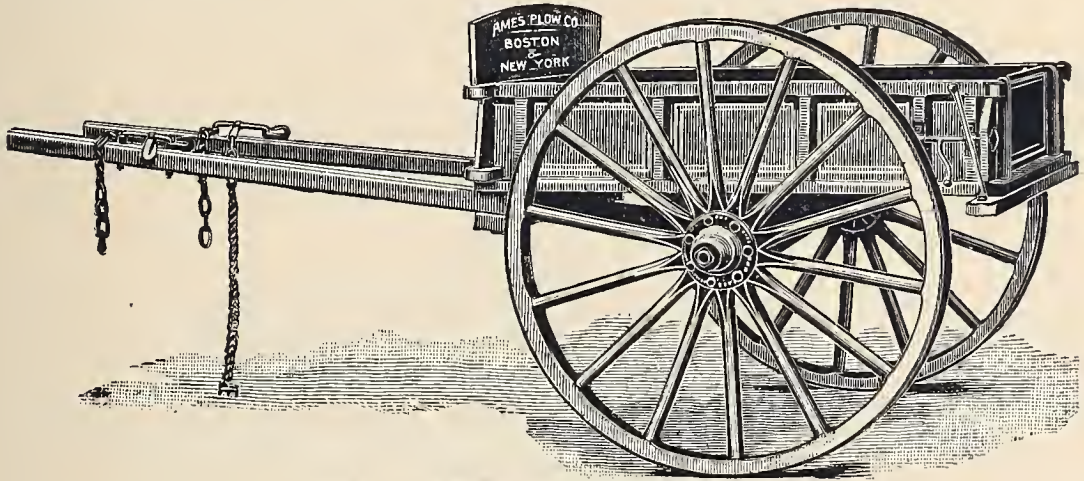

Fig. B 565.—Railroad Cart.
**The Railroad Cart.**—This cart, per *Fig. B 565*, has a large sale for use in building railroads, dams, reservoirs, and for road making and all large contract work. It is shown with iron hubs, but some contractors prefer wood hubs. It is well suited for general town work.